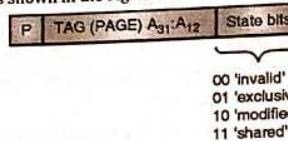

Fig. 13.6.3: Data cache Directory entry structure
7. Each directory entry has a tag (or page) field used to record the page number of the memory page where the line of information came from. This directory entry is as shown in the Fig. 13.6.3.